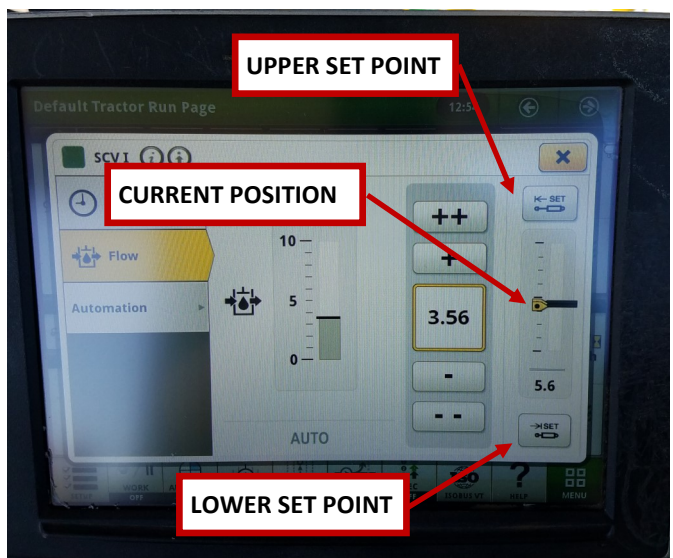

Figure 7-46:
8. Once the axle is centered, press the upper and lower set points on the monitor to set the center for your steering. See Figure 7-46.